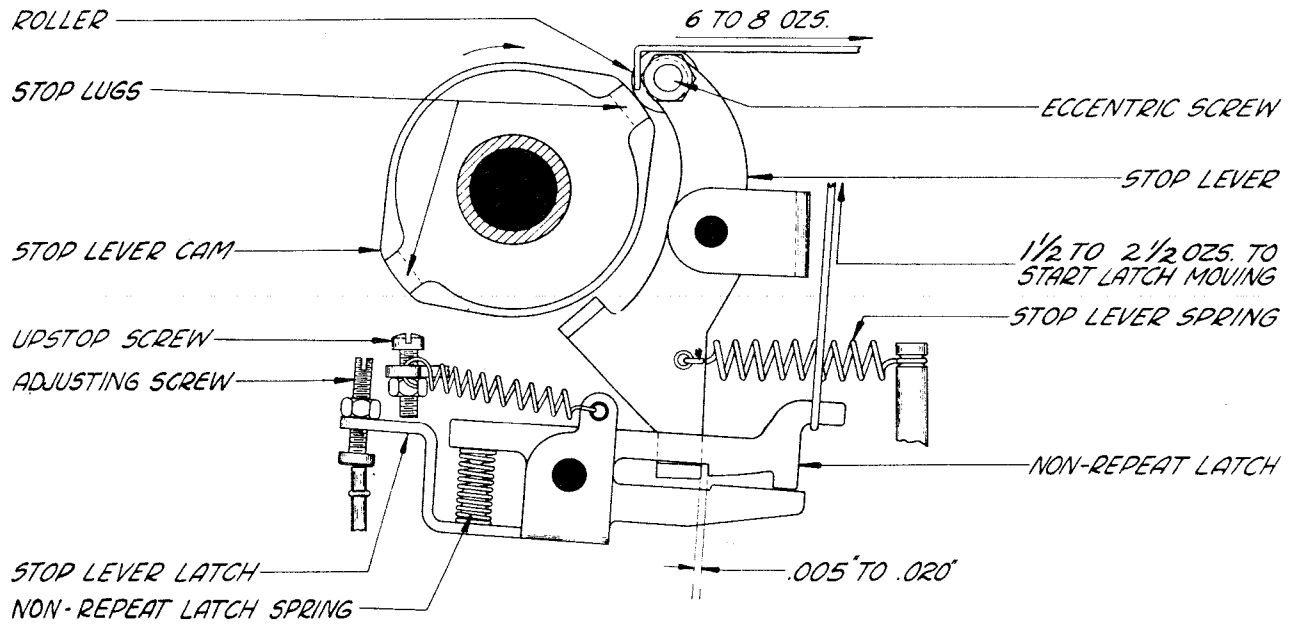

Figure 6
2.15 Stoplever Camroller Eccentric Screw: With a keylever held depressed and the stoplever camroller first on one of the stop-lugs which form the high part of its stoplever cam, the stoplever extension should overtravel the nonrepeat latch by minimum 0.005 inch, maximum 0.020 inch. Check for this same clearance with the camroller on the opposite stop-lug. See Figure 6.
2.20 Stoplever Spring: With the stoplever cam-roller on a high part of its cam, hook a scale over the roller eccentric screw nut and pull horizontally. It should require a pull of minimum 6 ounces, maximum 8 ounces, to start the camroller moving away from its cam. See Figure 6.
2.21 Stoplever-latch Spring: With the stoplever roller on a high part of its cam, hook a scale under the stoplever latch just to the right of the adjusting screw, and pull vertically upward. It should require minimum 1/2 ounce, maximum 1-1/2 ounces to start the stoplever latch moving. See Figure 6.
2.22 Nonrepeat-latch Spring: With the stoplever roller on a high part of its cam, hook a scale under the right end of the nonrepeat latch and pull up. It should require a pull of minimum 1-1/2 ounces, maximum 2-1/2 ounces to start the nonrepeat latch moving. See Figure 6.